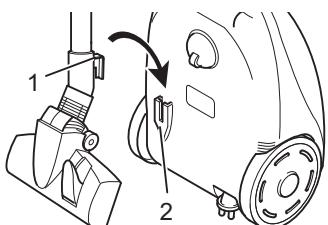

Fig. 17
■ For **storage**, you can hang the parking hook (Fig. 17/1) into the stow-away hook mount (Fig. 17/2) below on the cylinder vacuum cleaner.